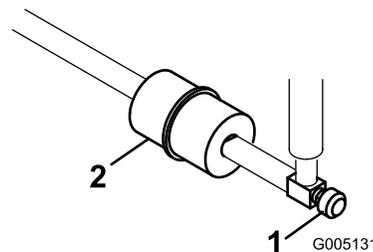

Figure 42
The in-line fuel filter is in the fuel line between the fuel tank and carburetor (Figure 42).
- Close the fuel-shutoff valve (Figure 42).
- Place a drain pan under the filter, loosen the hose clamp on the carburetor side of filter, and remove the fuel line from the filter (Figure 42).
- Loosen the other hose clamp and remove the filter (Figure 42).